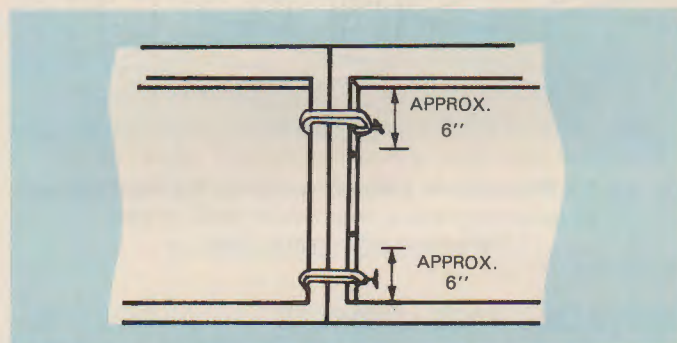

Fig. 49-32. Hang the cabinets, then fasten them to each other. (Jae Company).
8. Place C-clamps to hold the cabinets securely at the top and bottom while fastening them together, Fig. 49-32. For frame cabinets, drill pilot and clearance holes in the adjoining stiles. Countersink the clearance hole. Fasten the cabinets together with two 2 1/2 X No. 6 flat head wood screws. To hide these connecting screws, remove the door and hinge; then drill and fasten cabinets under the hinge plate. When you replace the doors, the screws will be hidden.